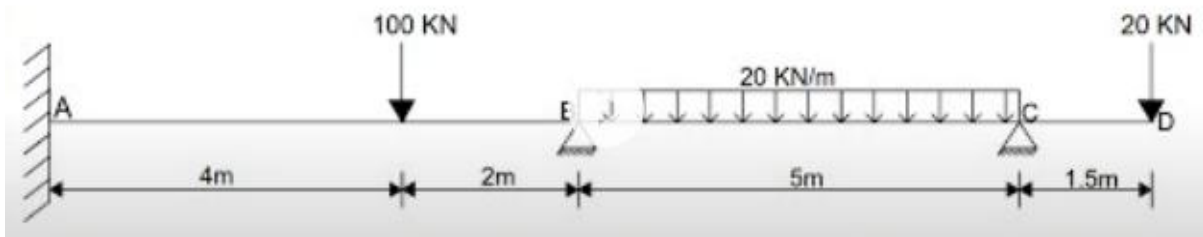

Fig. 3
4. Use the stiffness matrix method to solve the beam reactions in Fig 3. Draw the shear force diagram, the bending moment diagrams and, sketch the deflected shape for the structure.